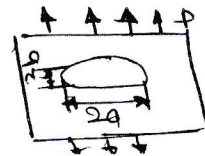

Fig Q2(b)
- A plate containing the hole is applied uniform stress σ of a value 100MPa. Estimate the magnitude of stress at a point p as shown in Fig Q2(b) for the condition :